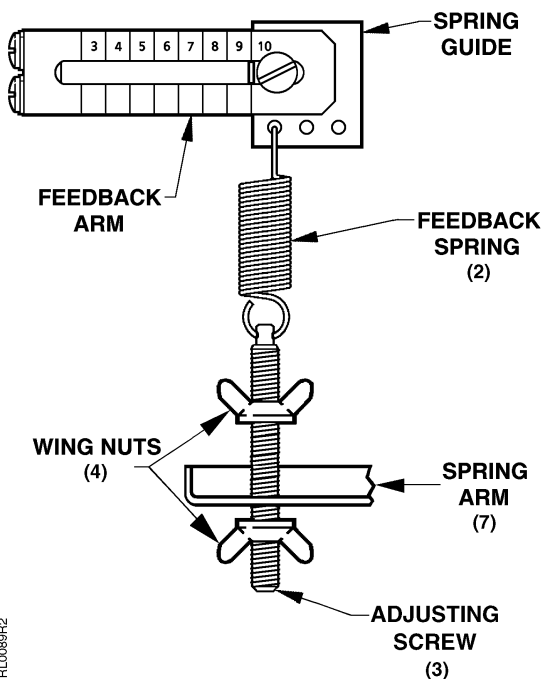

Figure 2. Attaching the Adjusting Screw to the Spring Arm.
4. Position the spring arm (7) on the valve stem so the slot for the adjusting screw (3) is in line with the spring guide. Lock the spring arm in position between the jam nut and the stem nut.
5. Connect the feedback spring between the spring guide and the adjusting screw (3).
6. Thread one wing nut (4) onto the adjusting screw (3). See *Figure 2*.